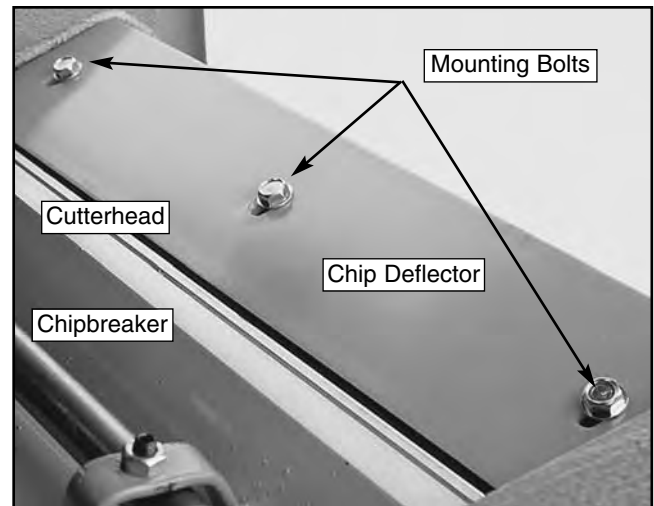

Figure 25. Chip deflector access.
2. Loosen the three deflector mounting bolts. See **Figure 25**. Make sure the beveled edge of the deflector faces the cutterhead.